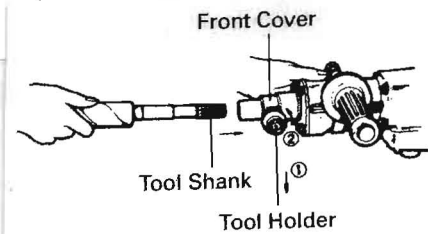

Fig. 3
- (1) Clean, and then smear the tool shank with the grease provided.
- (2) Pull the tool holder in the direction of arrow 1 and rotate it in the direction of arrow 2 (counterclockwise). Fully insert the tool shank into the hexagonal hole of the front cover. (Fig. 3)
- (3) Return the tool holder to fix the tool.